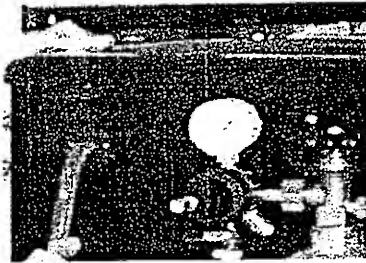

Fig. 4
- Insert the open end of the air line (red) into the cabinet through the uncovered hole. (See Figure 4)